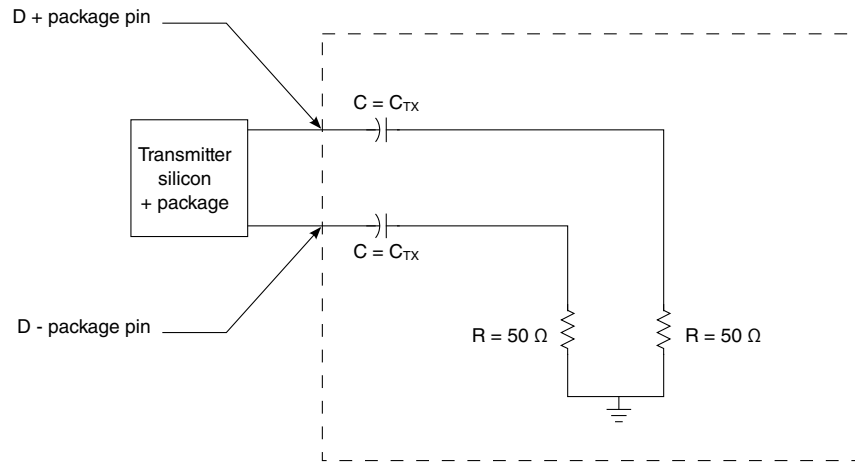

Figure 40. Test/measurement load
1. Specified at the measurement point into a timing and voltage test load as shown in Figure 40 and measured over any 250 consecutive transmitter UIs.
<p>1. Specified at the measurement point and measured over any 250 consecutive UIs. The test load in Figure 40 must be used as the receiver device when taking measurements. If the clocks to the receiver and transmitter are not derived from the same reference clock, the transmitter UI recovered from 3500 consecutive UI must be used as a reference for the eye diagram.</p> <p>2. A $T_{RX-EYE} = 0.40$ UI provides for a total sum of 0.60 UI deterministic and random jitter budget for the transmitter and interconnect collected any 250 consecutive UIs. The $T_{RX-EYE-MEDIAN-to-MAX-JITTER}$ specification ensures a jitter distribution in which the median and the maximum deviation from the median is less than half of the total. UI jitter budget collected over any 250 consecutive transmitter UIs. It must be noted that the median is not the same as the mean. The jitter median describes the point in time where the number of jitter points on either side is approximately equal as opposed to the averaged time value. If the clocks to the receiver and transmitter are not derived from the same reference clock, the transmitter UI recovered from 3500 consecutive UI must be used as the reference for the eye diagram.</p> <p>3. It is recommended that the recovered transmitter UI is calculated using all edges in the 3500 consecutive UI interval with a fit algorithm using a minimization merit function. Least squares and median deviation fits have worked well with experimental and simulated data.</p> <p>4. For recommended operating conditions, see Table 3.</p> <p>5. The $T_{RX-EYE-MEDIAN-to-MAX-JITTER}$ for common and separated reference clock architecture.</p> <p>6. If spread spectrum clocking is desired, common clock receiver architecture must be used.</p> <p>7. The AC specifications do not include Refclk jitter.</p>